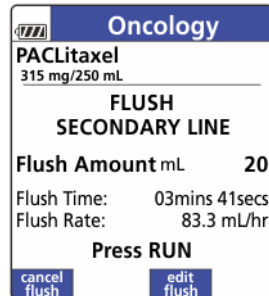

Figure 110. Enter Secondary Line Flush Volume. See important note on page 91.
3. Enter the desired flush amount to be delivered and press **OK**. See Figure 110.